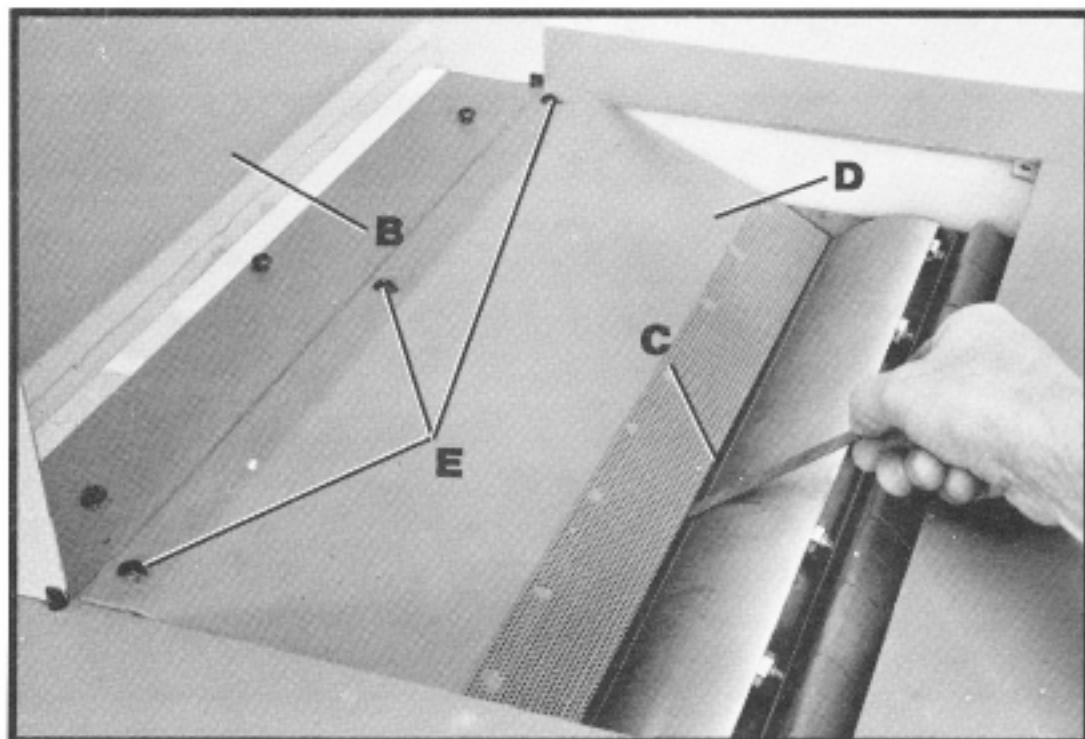

Fig. 32
3. The edge (C) of the chip deflector (D) Fig. 32, should be adjusted so it is a minimum of .040" and a maximum of .080" away from the cutting circle. Place a feeler gage between the knife and the edge of the chip deflector as shown in Fig. 32. If an adjustment is necessary loosen three screws (E) and move chip deflector.